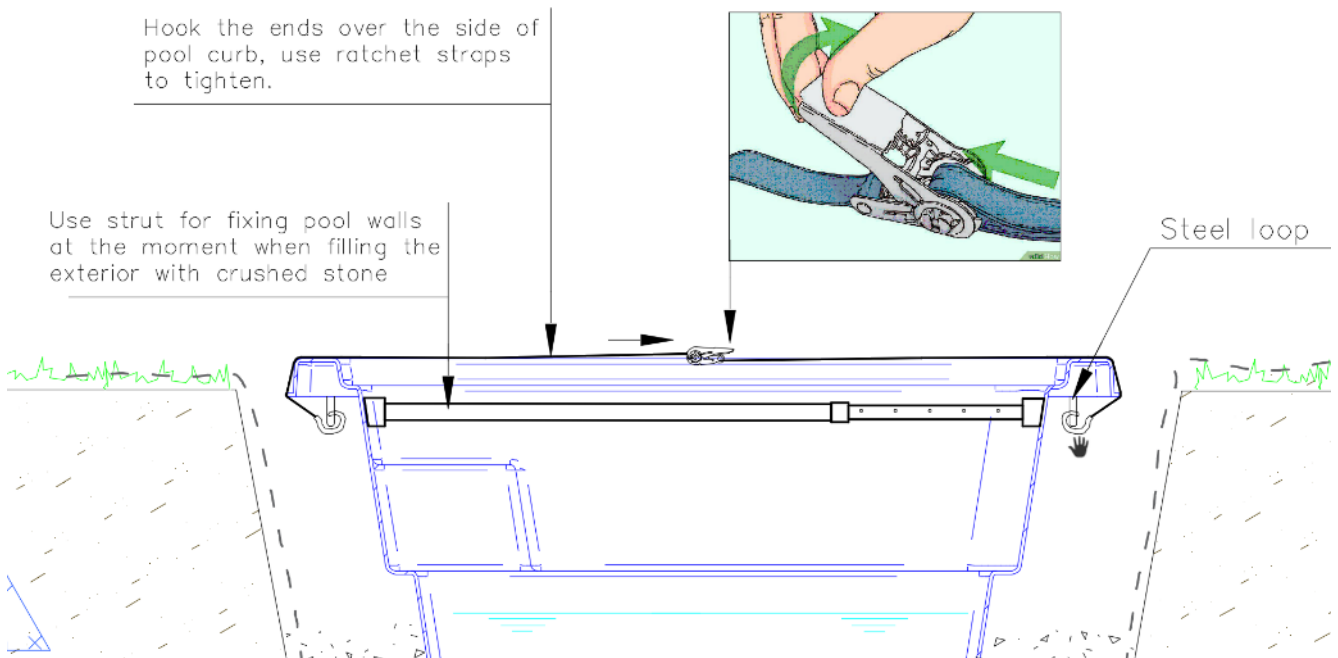

Fig. 15 Pool fixing with supports and straps
1. To avoid rubble pressure and body deformation when filling with earth, it is necessary to install 3 supports along the width of the pool at intervals of approximately at the loop outer side of the curb, Fig. 15. Also fasten with straps by hooking them to the loops on the outer side of curb. Struts remain in place until the basin is completely filled.